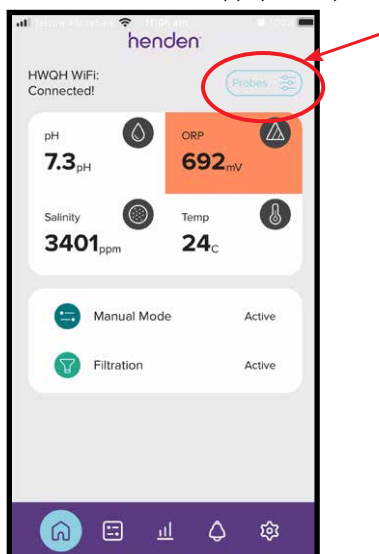

Figure 8.52
- From the dashboard of the Henden Smart Chlorinator App, press “probe settings” (refer figure 8.52)